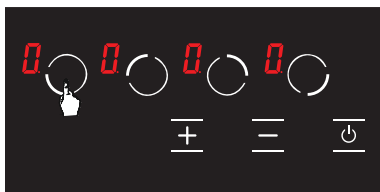

Figure 6
2. Press the relevant hob selection key. The icon shall be displayed in the relevant hob when you touch for the first time. (See Fig. 6)